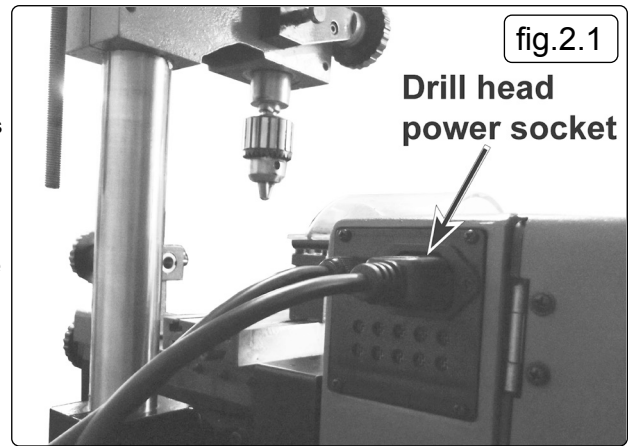

fig.2.1
- 5.6. Plug in the power lead (socket is located on the rear of SM2503A), (fig.2.1).